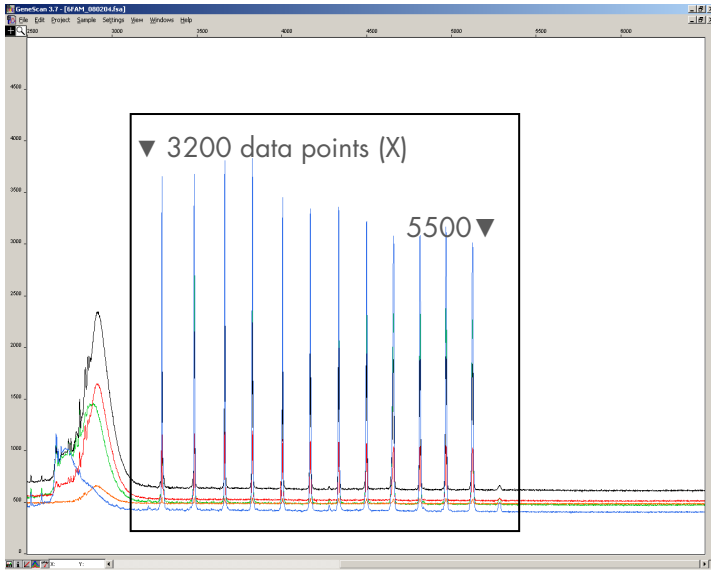

Figure 2. Electropherogram with raw data of the matrix standard 6-FAM.
6. Check the matrix samples for a flat baseline. As shown in Figure 2, there should be at least 5 peaks with peak heights of 1000–4000 RFU for each matrix sample.